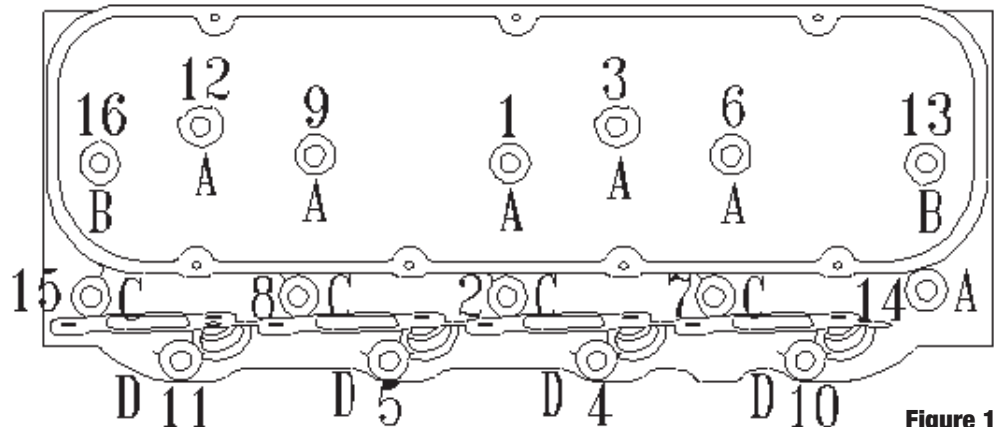

Figure 1
**HEAD BOLTS or STUDS:** High quality head studs or head bolts with hardened washers must be used to prevent galling of the aluminum bolt bosses. **Edelbrock Head Bolt Kit #8551 includes eight longer-than-stock bolts which must be used with these cylinder heads. If you use any other head bolts, you must use the eight head bolts and washers supplied with these heads in positions #15, #8, #2, and #7 in Figure 1.** These positions will not accept stock length head bolts. **NOTE:** Head bolts may bottom out in blocks with blind bolt holes (Bowtie, 502 Mark V, etc.). Check for clearance, and if necessary shorten bolts or replace with a set specifically designed for use with blind holes.
**NOTE:** For 454 and smaller Mark IV engines, Edelbrock Cylinder Head Gasket Set #7362 may be used. The set contains all gaskets necessary to install these cylinder heads onto a Mark IV engine, including intake, exhaust, cylinder head, distributor, water neck, and valve cover gaskets. Be sure that the surface of the block and the surface of the head is thoroughly cleaned to remove any oily film before installation. Use alcohol or lacquer thinner on a lint-free rag to clean. Apply liquid teflon or suitable thread sealer to head bolt threads. Torque short bolts to 65 ft./lbs. and long ones to 75 ft./lbs. in three steps following the factory tightening sequence (see Figure 1). A re-torque is recommended after initial start-up and cool-down (allow 2-3 hours for adequate cooling).